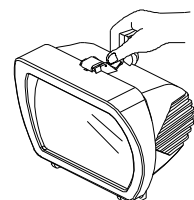

FIGURE 13
- 4) Refit the front surround and secure with the front cover clip (FIGURE 13).